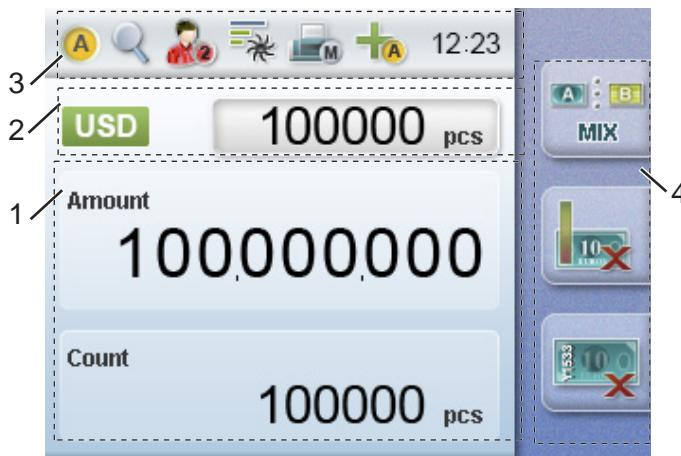

Figure 11: User Interface
- ⇒ After the machine has been started up, the main screen is displayed, see → *Figure 11 “User Interface”, p. 36*.